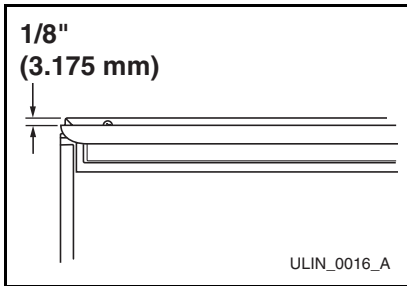

Figure 12
1. Compare the top edge of the door (opposite the hinges) to the top edge of the cabinet (**Figure 12**) and note the type (up or down) of adjustment needed.